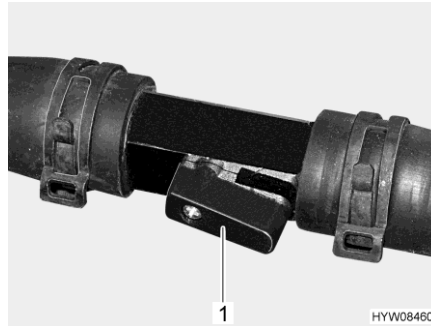

Fig. 179 Stopcock (open)
- Set the lever (Fig. 179,1) of the stopcock parallel to the pipe (Fig. 179). The wider the stopcock is opened, the higher is the heat output.
- Set the lever (Fig. 179,1) of the stopcock at right angles to the pipe. Heat is circulated by the bypass line.